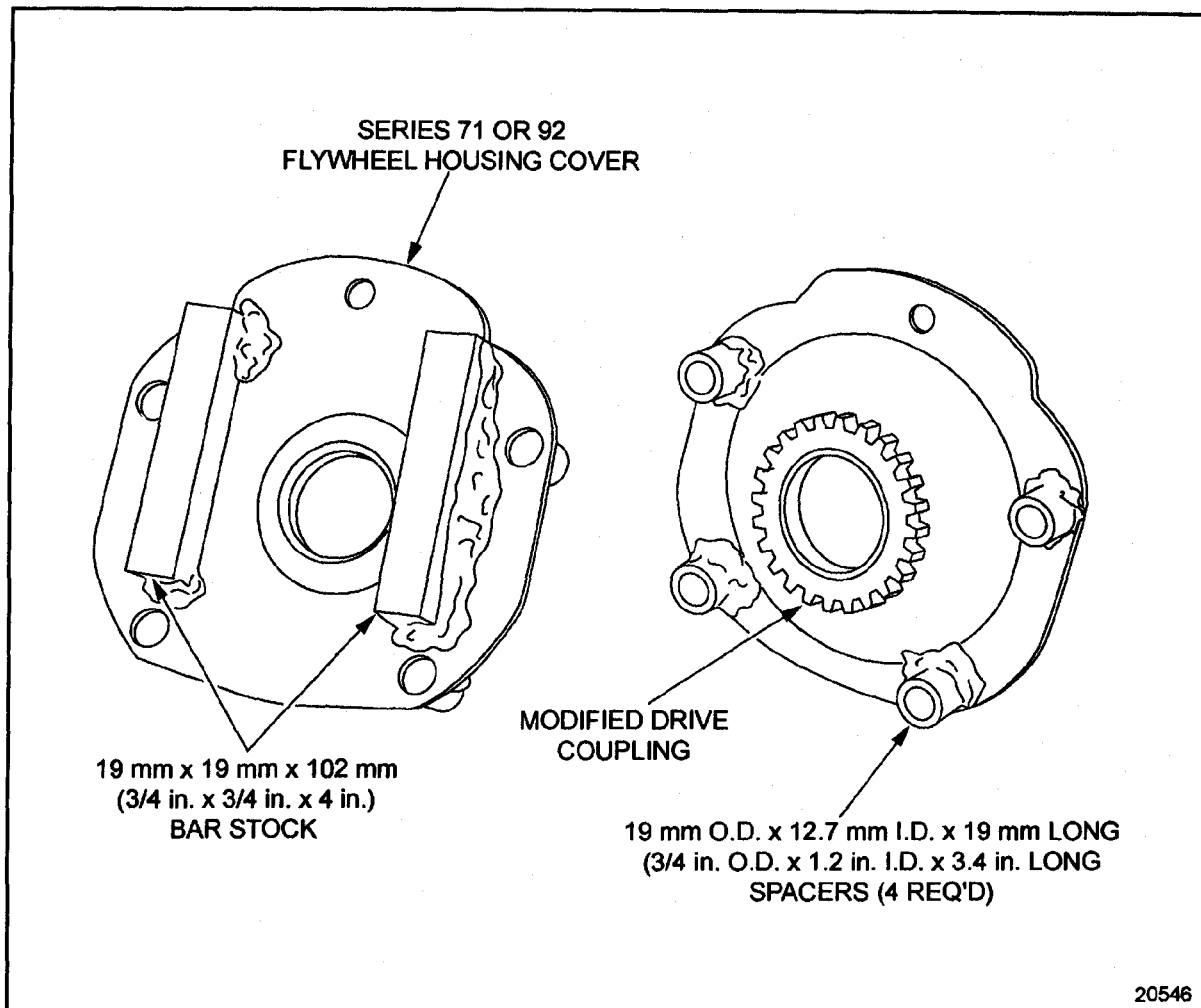
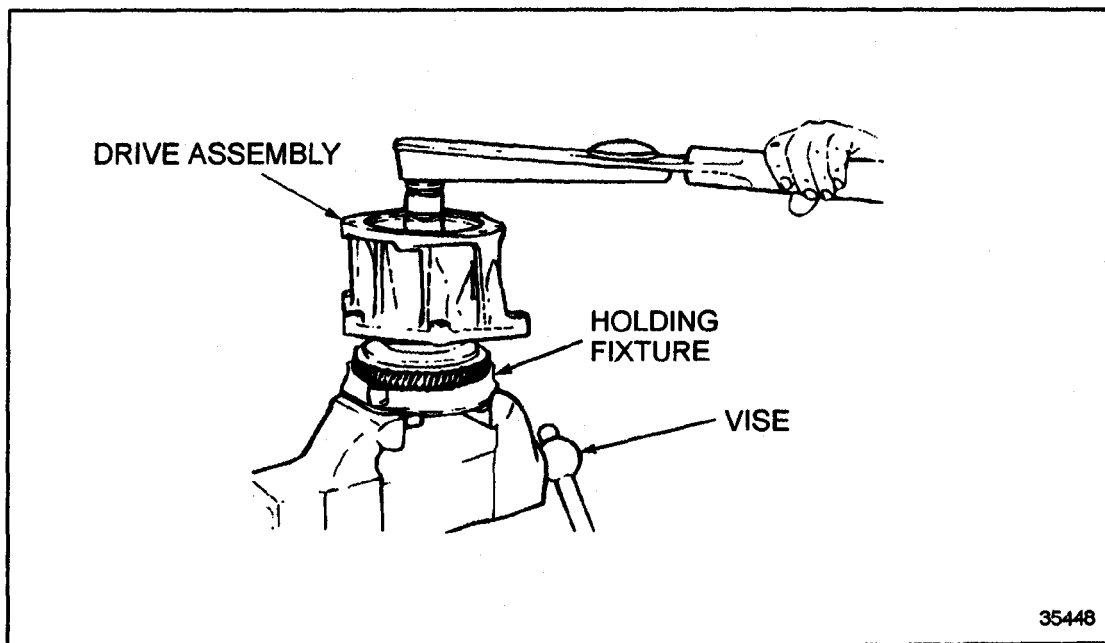

Figure 10-10 Holding Fixture
Figure 10-17 Air Compressor/Raw Water Pump Drive Hub Disassembly
To properly position the cover and coupling with the drive hub, four collars, 19 mm O.D. and 12.7 mm I.D., 19 mm long (3/4 in. O.D. and 1/2 in. I.D., 3/4 in. long), and two pieces of bar stock 19 mm x 19 mm x 102 mm (3/4 in. x 3/4 in. x 4 in.) must be fabricated and welded to the flywheel housing cover at the positions shown in the next illustration. See Figure 10-10.
1. Secure the holding fixture, see Figure 10-10, in a suitable vise with the drive coupling facing up. See Figure 10-17.